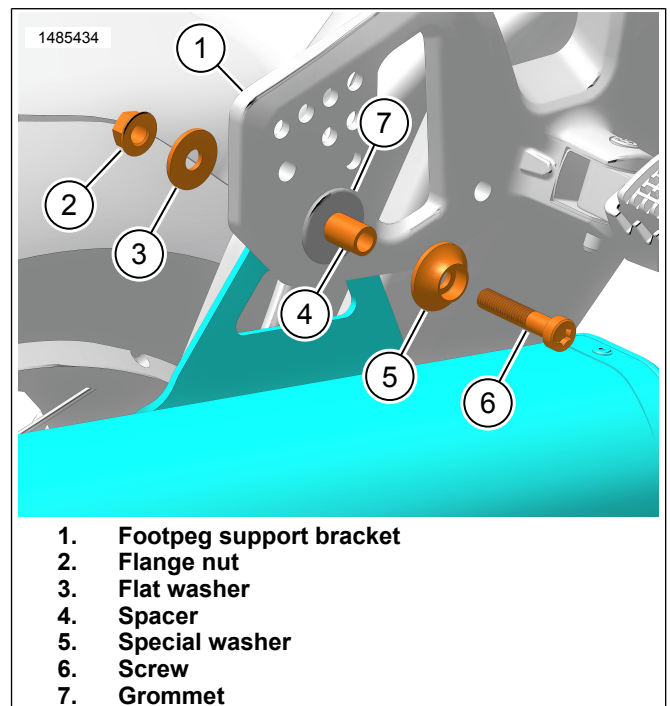

Figure 5. Muffler Hardware
a. Align mounting bracket (2) with hole.
5. Figure 5 Position muffler bracket behind the passenger footpeg support bracket (1).
a. Align components and install spacer (4).
a. Use threadlocker on screw (6).
10. Figure 5 Tighten screw (6).